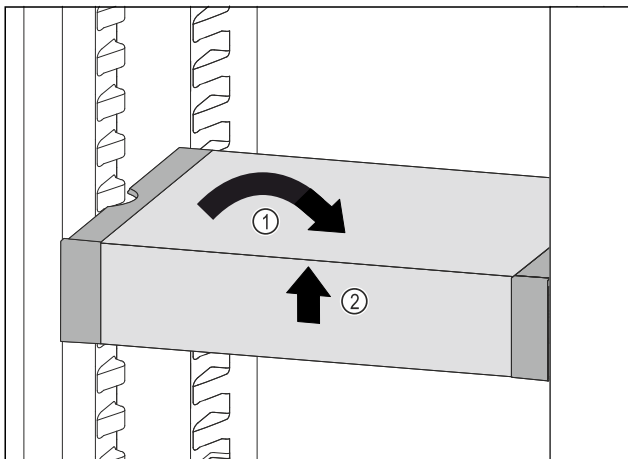

Fig. 87
- Set VarioSafe straight. Fig. 87 (1)
- Lift VarioSafe at the front. Fig. 87 (2)